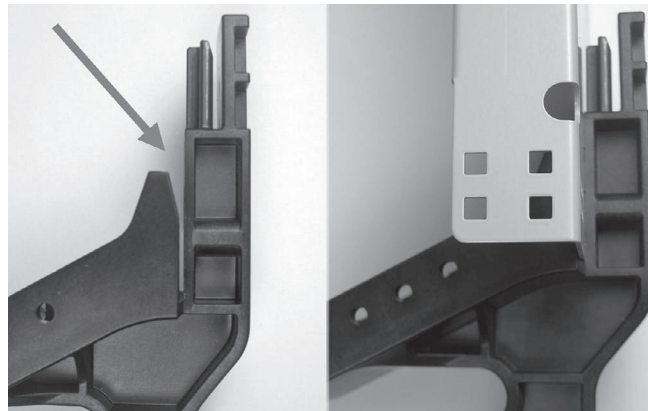

Figure 8: FOSC 450 B6 with New Style Tray Bracket
1. Slide basket open-side-up into the slot on the tray bracket. (Figure 8)